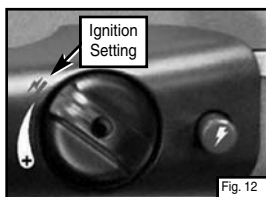
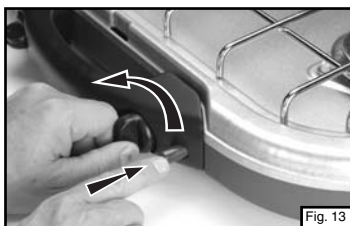

Fig. 12
Fig. 13
- Open burner valve to the red ignition setting mark (Fig. 12) and push igniter button repeatedly until burner lights (Fig. 13 and 14).